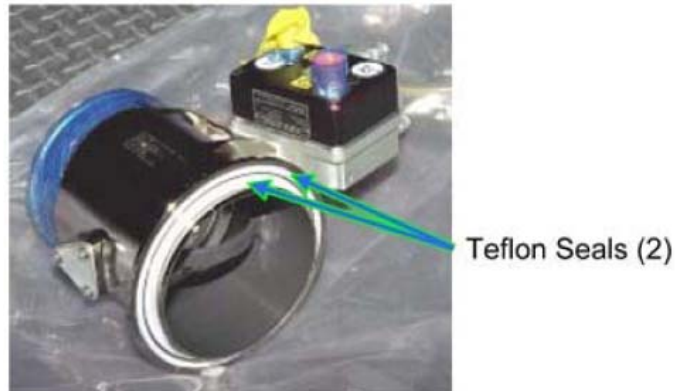

Figure 7.- Typical View IMV Teflon Seals.
- 2.4 ✓ Teflon Seal (two) on mating surface of IMV Valve flange clean, free of debris. Clean, if required, by wiping around circumference of seal (Dry Wipes). Refer to Figure 7.